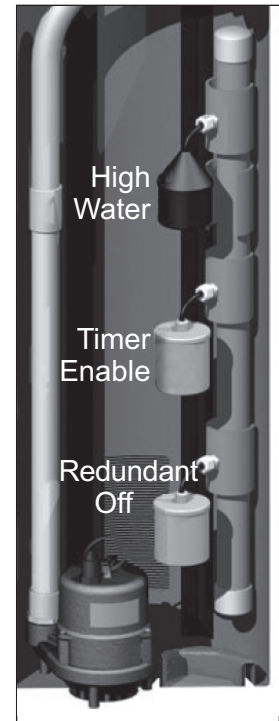

Figure 17
1. Use the float labels included to identify each float as in figure 17.
2. Determine your normal operating level and float configuration. (figure 17)